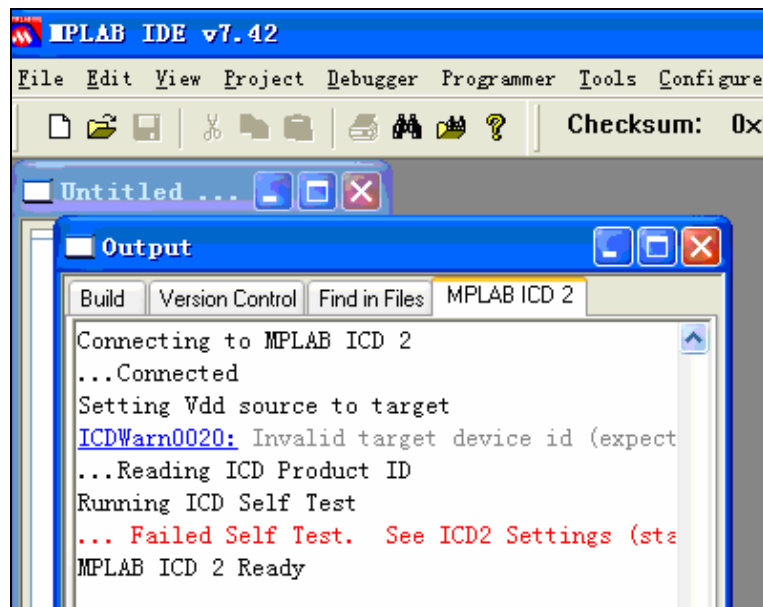

Figure 8
**2-3.** If below diagram shown (Figure 8), that means the target chip is not found by MPLAB ICD2, please check the connection to target chip.